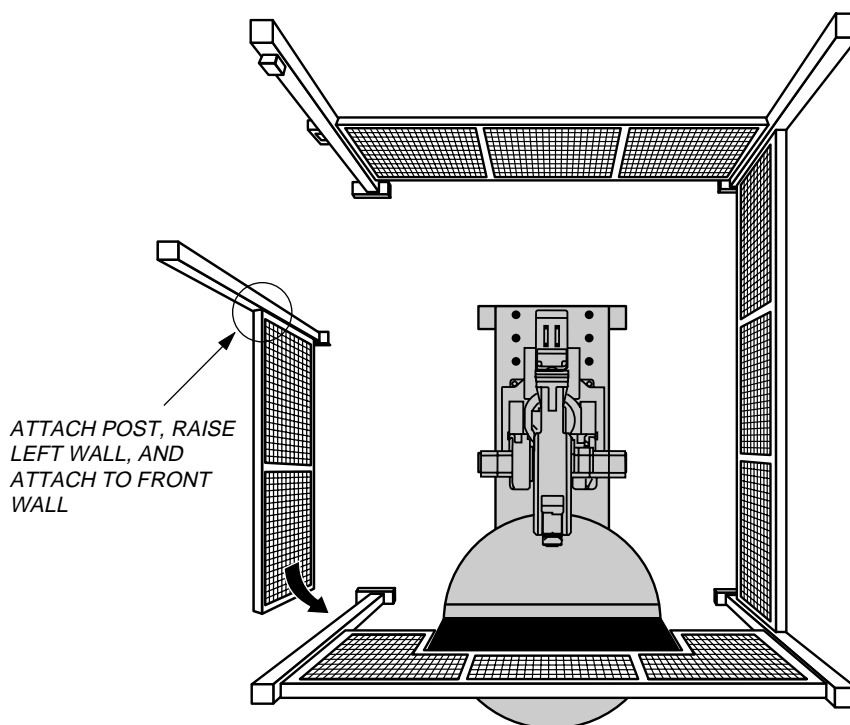

Figure 4-11 Installing the Left Wall
8. Clamp front wall to positioner arc screen with large C-clamps, using two pieces of wood as buffers to protect surface of screen (see Figure 4-11).